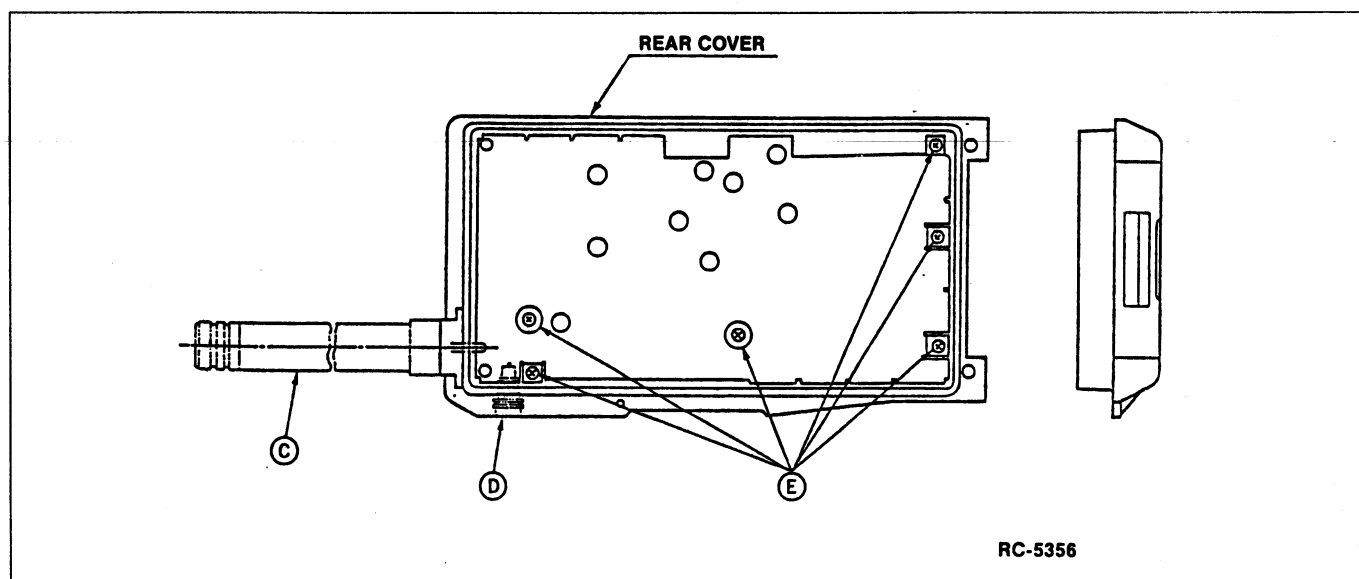

FIGURE 15 - DISASSEMBLY
To Remove the RF Section, unscrew and remove the antenna at (C) and RF connector at (D). Remove the six screws at (E) using the Phillips-head screwdriver. The radio section can now be detached from the rear cover (see Figure 15).